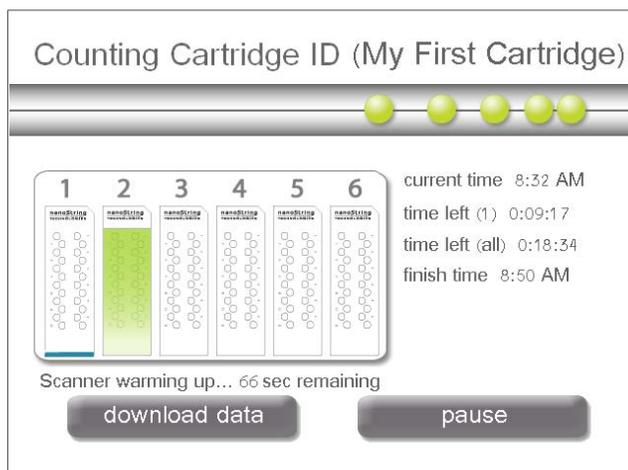

Figure 2.33 The Counting Cartridge ID screen - with run in progress information
>>> The Counting Cartridge ID screen appears (Figure 2.33).
- a. In the Counting Cartridge ID screen (Figure 2.33) press **pause**.